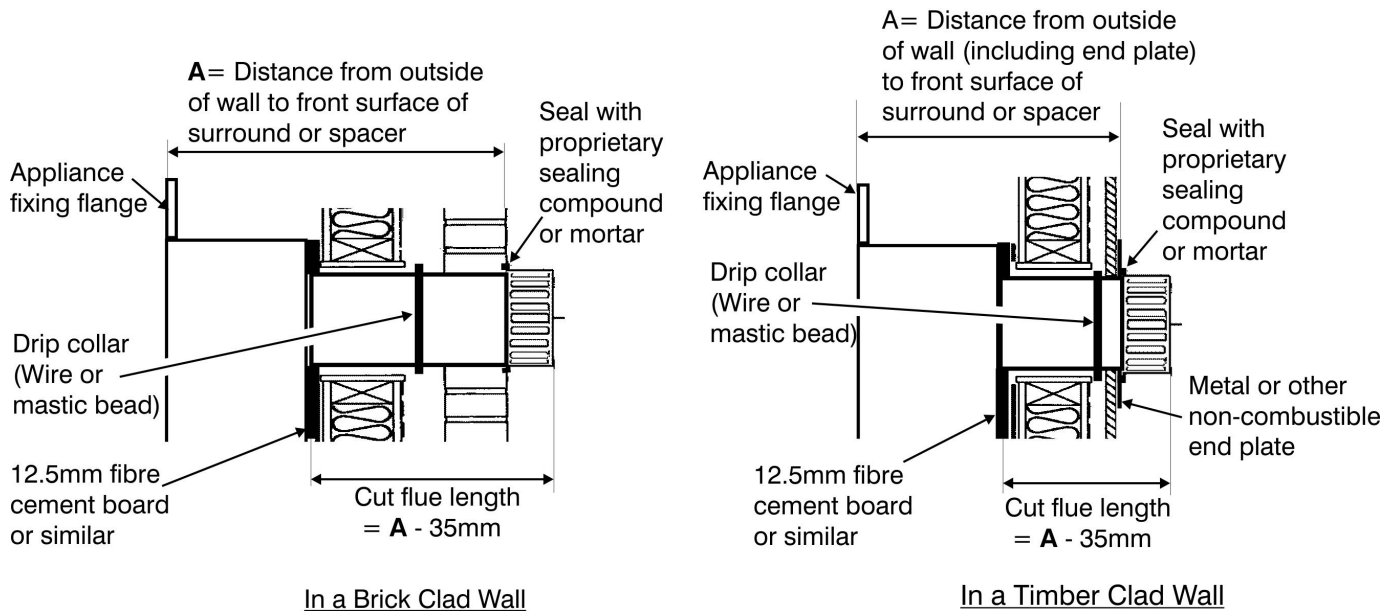

Figure 13b. Flue unit installation - Timber framed building.
- Timber frame buildings: Offer the fire complete with flue unit through the insulating sheet (mentioned in section 7.3). Fit a drip collar round the flue positioned so that it will be located in the centre of the wall cavity (See figure 13b). The drip collar can be made by wrapping a non-corrosive wire round the flue or moulding a bead of mastic round the flue. A timber frame flue clearance kit is available. Part no. 0583141.
- Timber frame building with combustible outer leaf (e.g. shiplap boarding): A metal or other non-combustible end plate must be fitted on the outside of the wall. The plate must be concentric with the flue and at least 254mm (10in) square or diameter (See figure 13b).